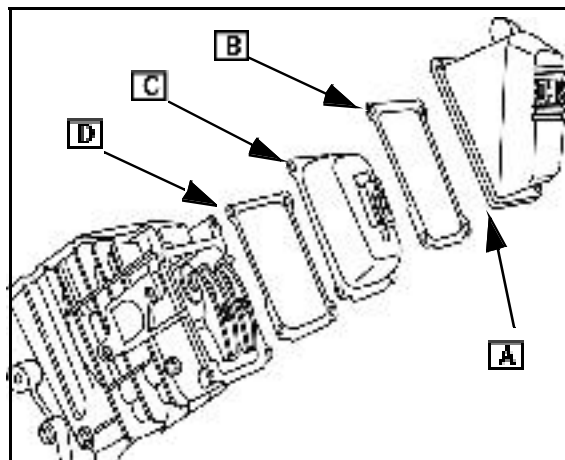

Fig. 27
1. Remove four screws that hold valve cover (A) and gasket (B).
2. Remove valve cover. Breather assembly (C) and gasket (D) Fig. 27) will come off with valve cover.
1. Install gasket (D), breather assembly (C), gasket (B), and valve cover ([A] Fig. 27) to cylinder head.